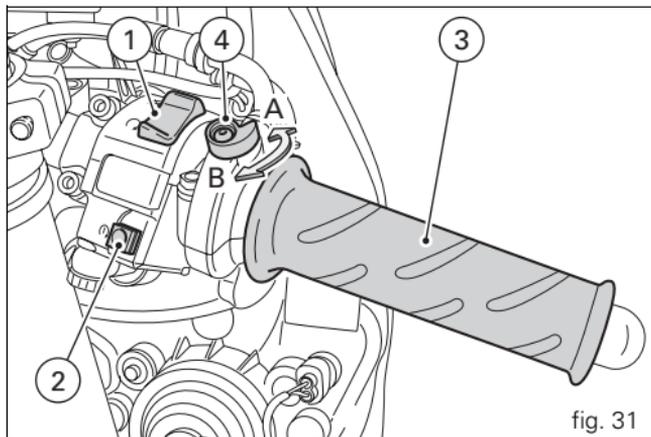

fig. 31
1) if the code is recognised, the immobilizer enables engine ignition. Press the START button (2, fig. 31), to start the engine;
## RH switch (fig. 31)
## Throttle twistgrip (fig. 31)
## Choke lever (fig. 31)